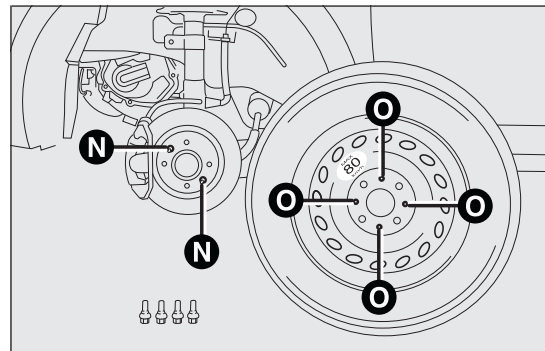

fig. 101
- ❑ fit the space-saver wheel making pin N fig. 101 coincide with one of the wheel holes O fig. 101;